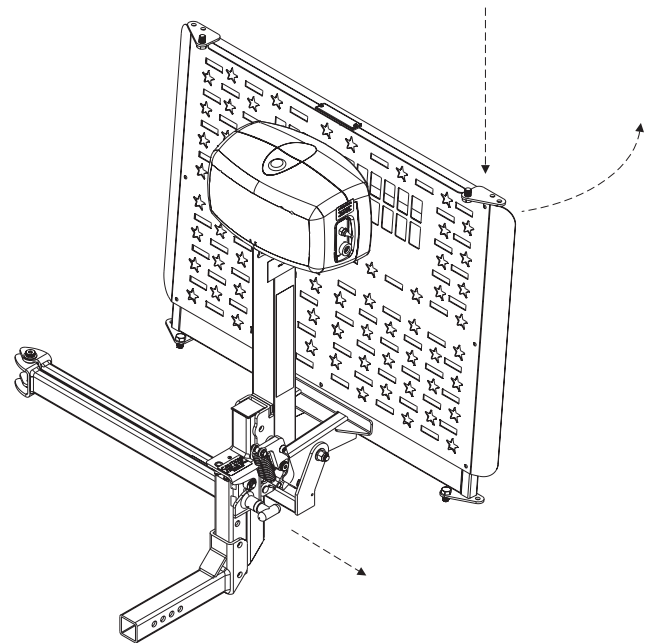

Figure 7-11
**NOTE:** On the AL105L model, the platform must be pushed down and away from the vehicle to release the latching mechanism. See Figure 7-11.